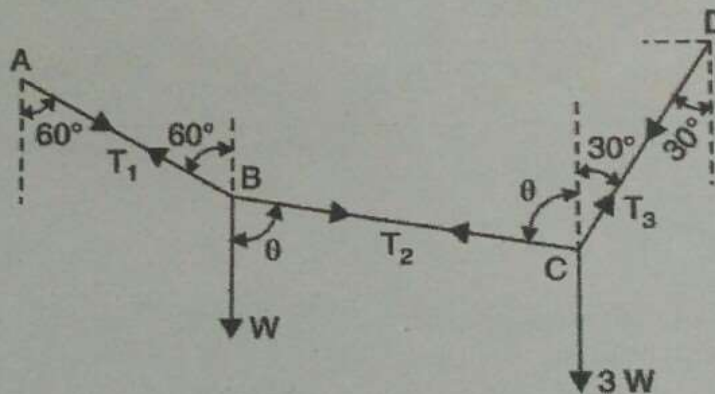

Fig.1.
- a. The extremities A and D of a light inextensible string ABCD are tied to two points in the same horizontal line as shown in Fig.1. Weights W and 3W are tied to the string at the points B and C respectively. If AB and CD are inclined to the vertical at angles  $60^\circ$  and  $30^\circ$  respectively, show that BC is horizontal and find the tension in the various part of the string.